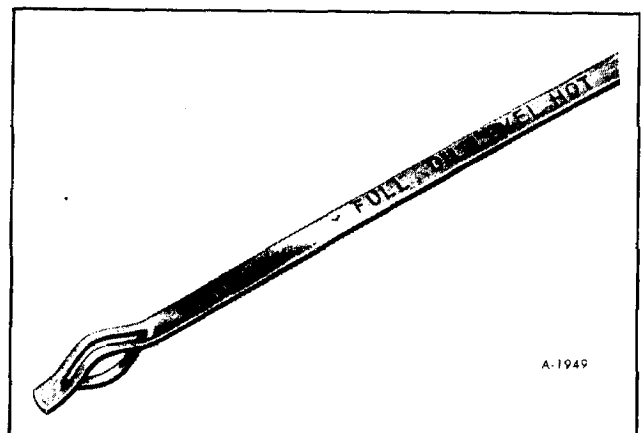

Figure 15-Transmission Dipstick
8. Remove dipstick and note reading. (figure 15)